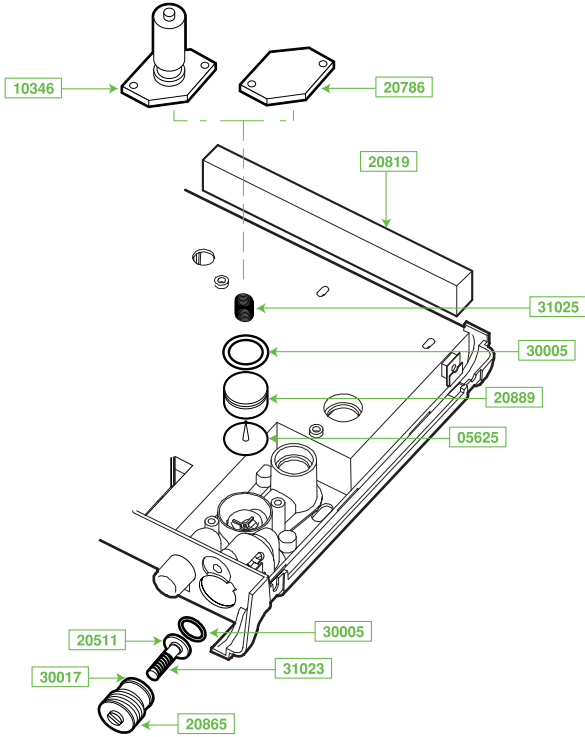

Figure 5-20. Outlet Check Valve Assembly and Relief Valve Assembly
- b) Referring to Figure 5-20, remove the cover plate (P/N 20786) using a short Phillips screwdriver and withdraw the components.
- c) Referring to Figure 5-20, back out the Relief Valve Adjuster (P/N 20865) and remove it and its components from the ventilator.